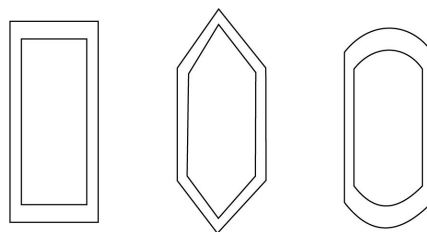

Fig. 18.2 Masonry piers
1. **Masonry piers** May be with brick, stone or plain concrete. In concrete piers richer concrete may be used for skin and poor concrete for heart. Using plain concrete about 600 mm height may be built every day. All masonry piers are provided with rich concrete at top to serve as bed block to receive bearing and distribute load uniformly to the lower portion of pier. Various types of shapes of piers are used as shown in Fig. 18.2 commonly used pier shape is with end triangular shape making an angle of 30° to 60° with side.